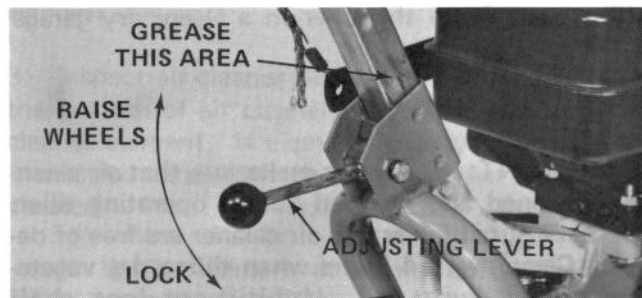

Figure 16
1. Move adjusting lever upward (Fig. 16). Raise or lower the wheels to the desired position, then